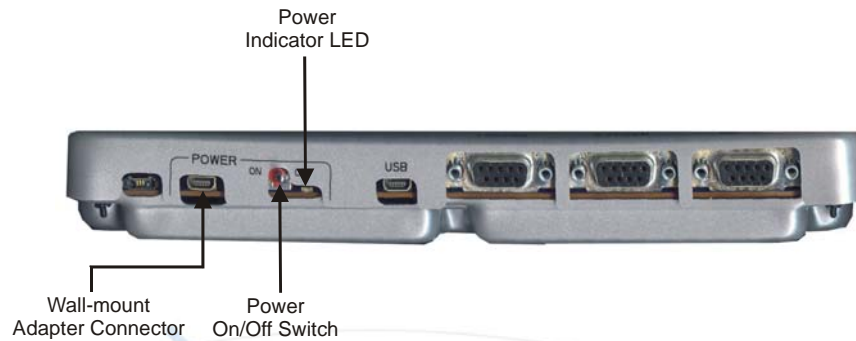

Figure 2-10: G30 Developer's Kit Wall Mount Adapter Connector
1. Connect the Wall mount adapter to the Power Adapter connector (J210) (Figure 2-10)